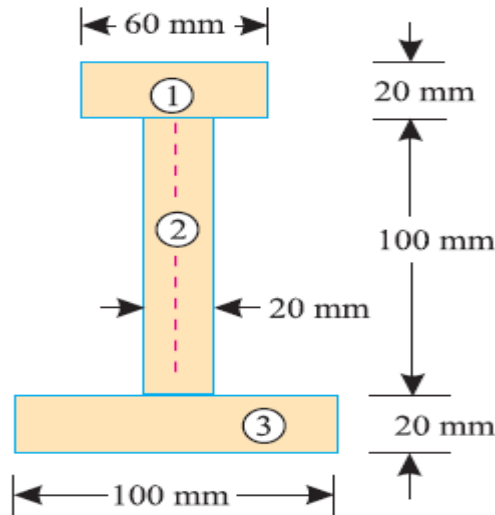

Fig.21
5. An I-section is made up of three rectangles as shown in Fig. 21. Find the moment of inertia of the section about the horizontal axis passing through the centre of gravity of the section.